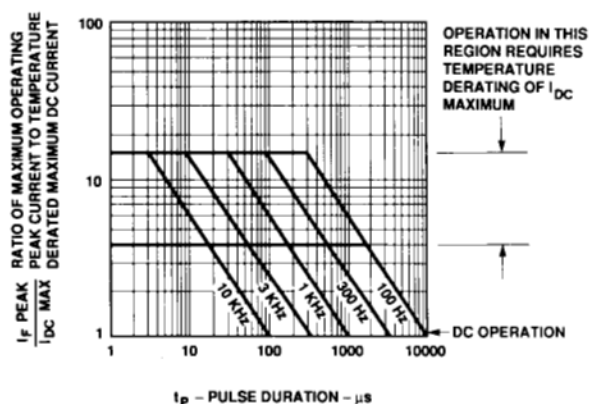

Figure 2. Maximum Tolerable Peak Current vs. Pulse Duration - AlGaAs Red.
- See Figure 2 to establish pulsed conditions.